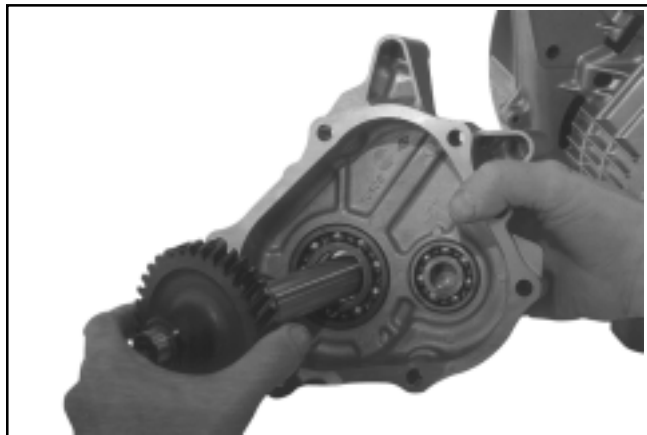

Figure 9-71. Removing Output Shaft/Gear from Cover.
- Pull the output shaft/gear assembly out of the housing cover or closure plate. See Figure 9-71.